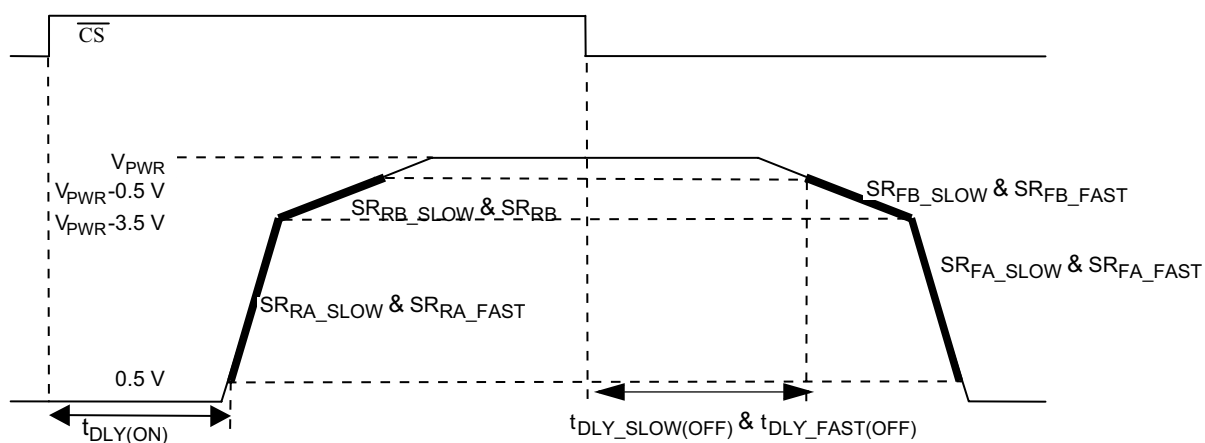

Figure 4. Output Slew Rate and Time Delays
- Rise and Fall Slew Rates A measured across a  $5.0\Omega$  resistive load at high side output =  $0.5V$  to  $V_{PWR} - 3.5V$  (see Figure 4, page 12). These parameters are guaranteed by process monitoring.
- Rise and Fall Slew Rates B measured across a  $5.0\Omega$  resistive load at high side output =  $0.5V$  to  $V_{PWR} - 3.5V$  (see Figure 4). These parameters are guaranteed by process monitoring.